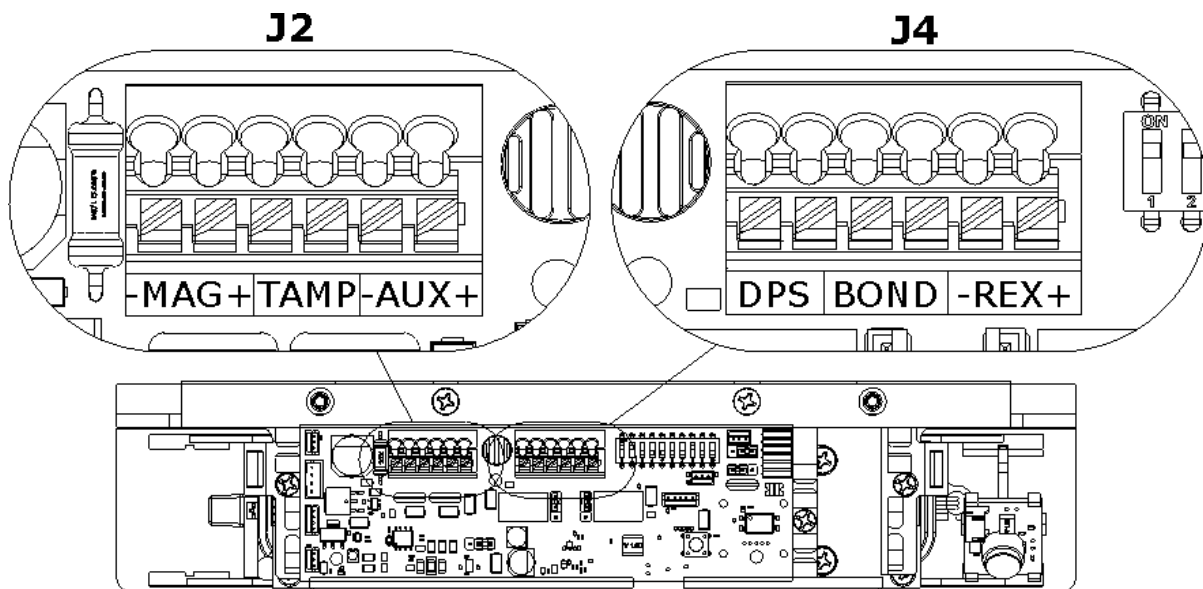

Figure 34. Location of J2 and J4 Terminals
- CONNECT wiring using Figures 34 – 36 as guides and as applicable.